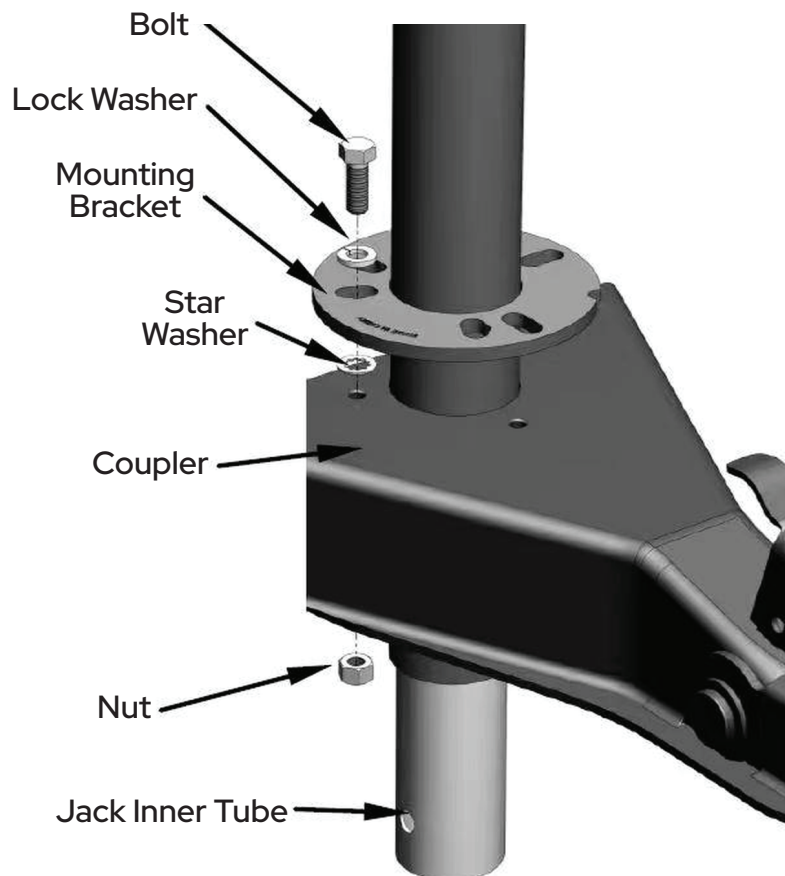

Figure 1
8. Attach the jack using the three (3) 3/8" diameter, 1" long, grade 5 bolts and nuts (provided). Use the provided lock washers, placing them between the bolt head and the top of the jack mounting bracket. Star washers are used to insure a metal-to-metal contact between jack and coupler for proper grounding (Figure 1). Torque bolts to 15–20 ft-lbs.